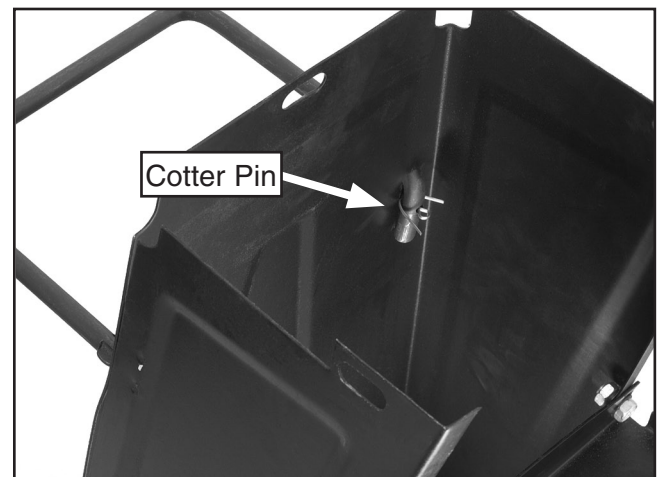

Figure 7. Cotter pins installed into the handle.
6. On the other leg, Insert the handle into the pre-drilled holes and secure with the cotter pins (see **Figure 7**).